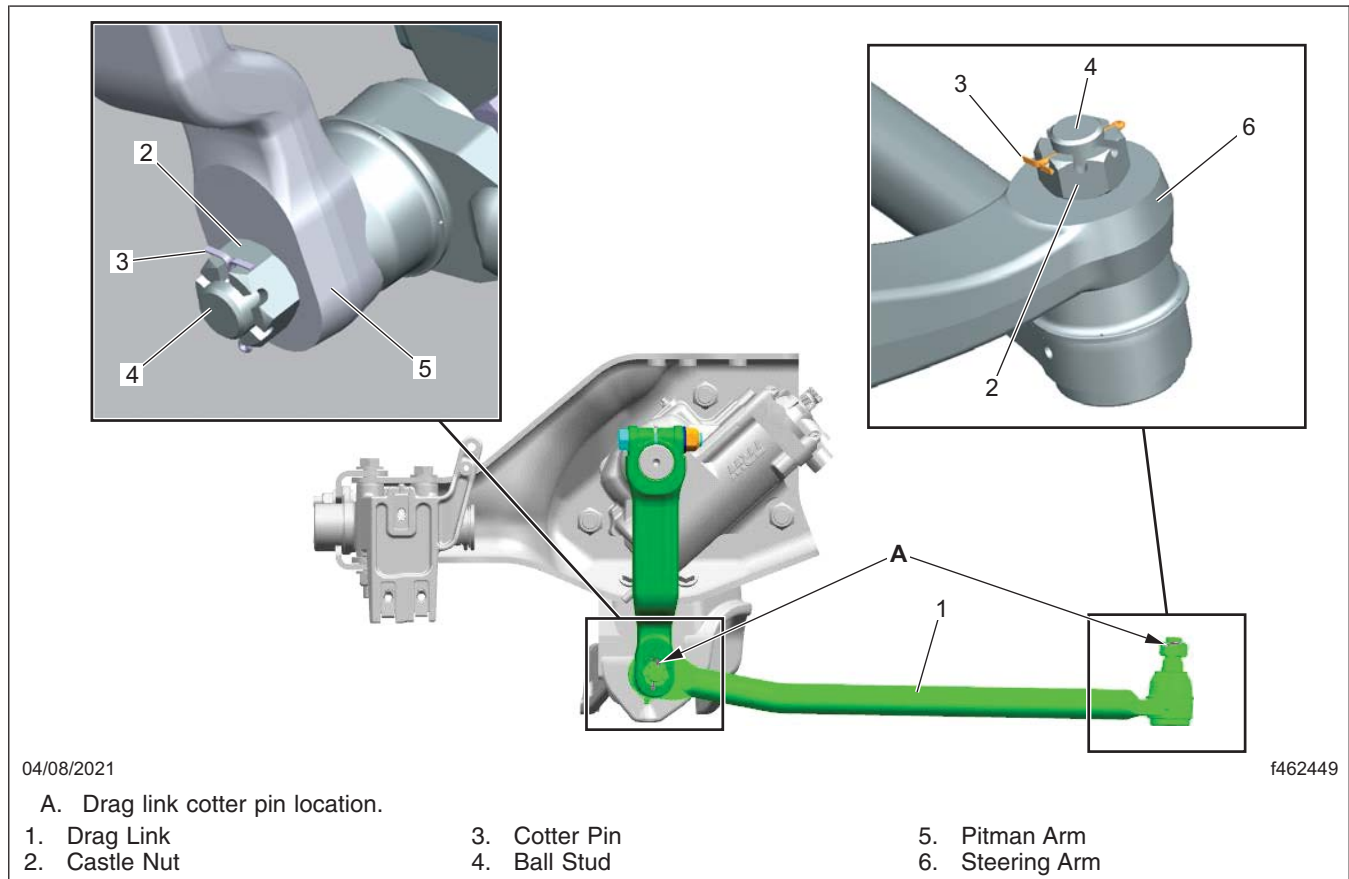

Fig. 2, Drag Link Cotter Pin Location
7. Remove and discard the cotter pin from the castle nut at the drag link to steering arm joint, then tighten the castle nut to the torque value shown in Table 3. See Fig. 2.
1. At both ends of the drag link, remove the cotter pins, then remove the castle nuts. See Fig. 2. Discard the cotter pins and castle nuts.
10. Install and lock a new cotter pin on the castle nuts at both ends of the drag link. See Fig. 2.